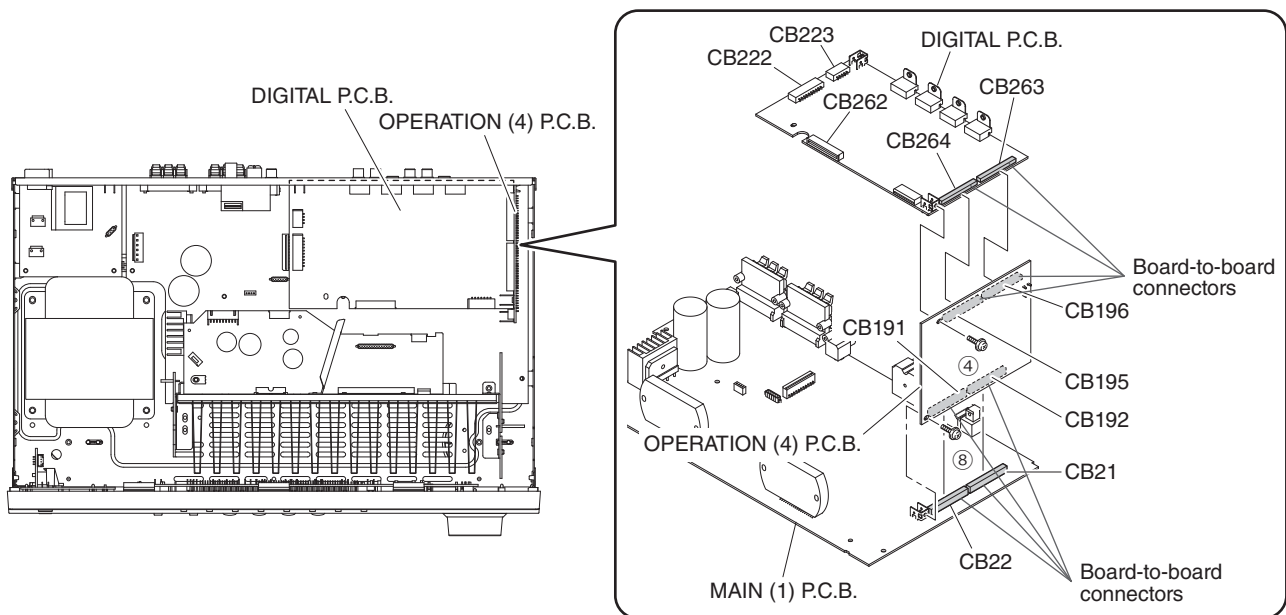

Fig. 2
- Remove CB222 and CB223. (Fig. 2)
- Unlock and remove CB262. (Fig. 2)
- Remove screw (④). (Fig. 2)
- Remove the DIGITAL P.C.B. which is connected directly to the OPERATION (4) P.C.B. with board-to-board connectors. (Fig. 2)
4. Removal of OPERATION (4) P.C.B.
- Remove screw (⑧). (Fig. 2)
- Remove the OPERATION (4) P.C.B. which is connected directly to the MAIN (1) P.C.B. with board-to-board connectors. (Fig. 2)